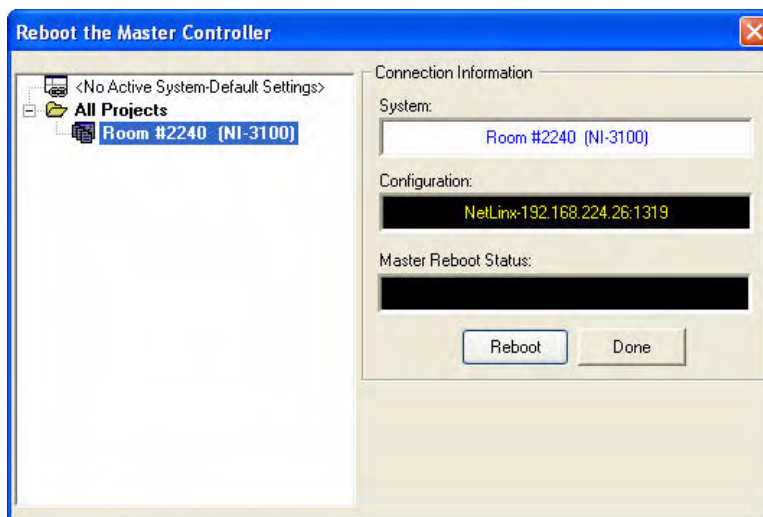

FIG. 88 NetLinx Studio - Reboot the Master Controller dialog
11. Open the *Reboot the Master Controller* dialog (Tools > Reboot the Master Controller), and click **Reboot** to reboot the NetLinx Master and incorporate any changes (FIG. 88).